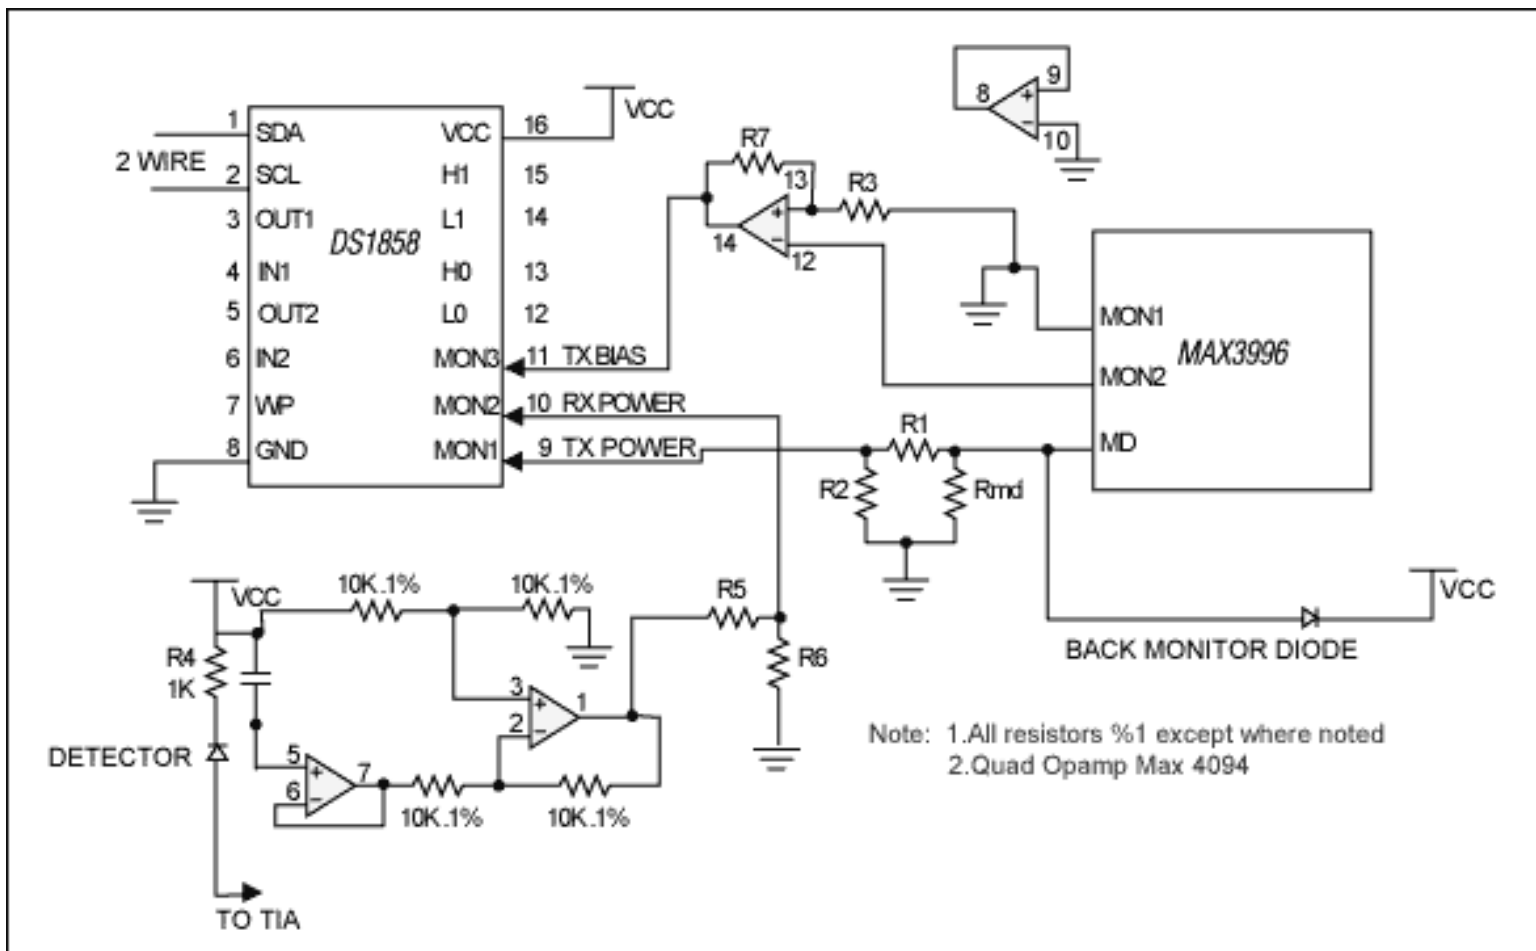

Figure 1.
**Figure 1** shows the use of a laser driver, the MAX3996, along with the DS1858 in a design that satisfies internal calibration requirements of SFF-8472. Supply bypassing and pins were left out for simplicity.